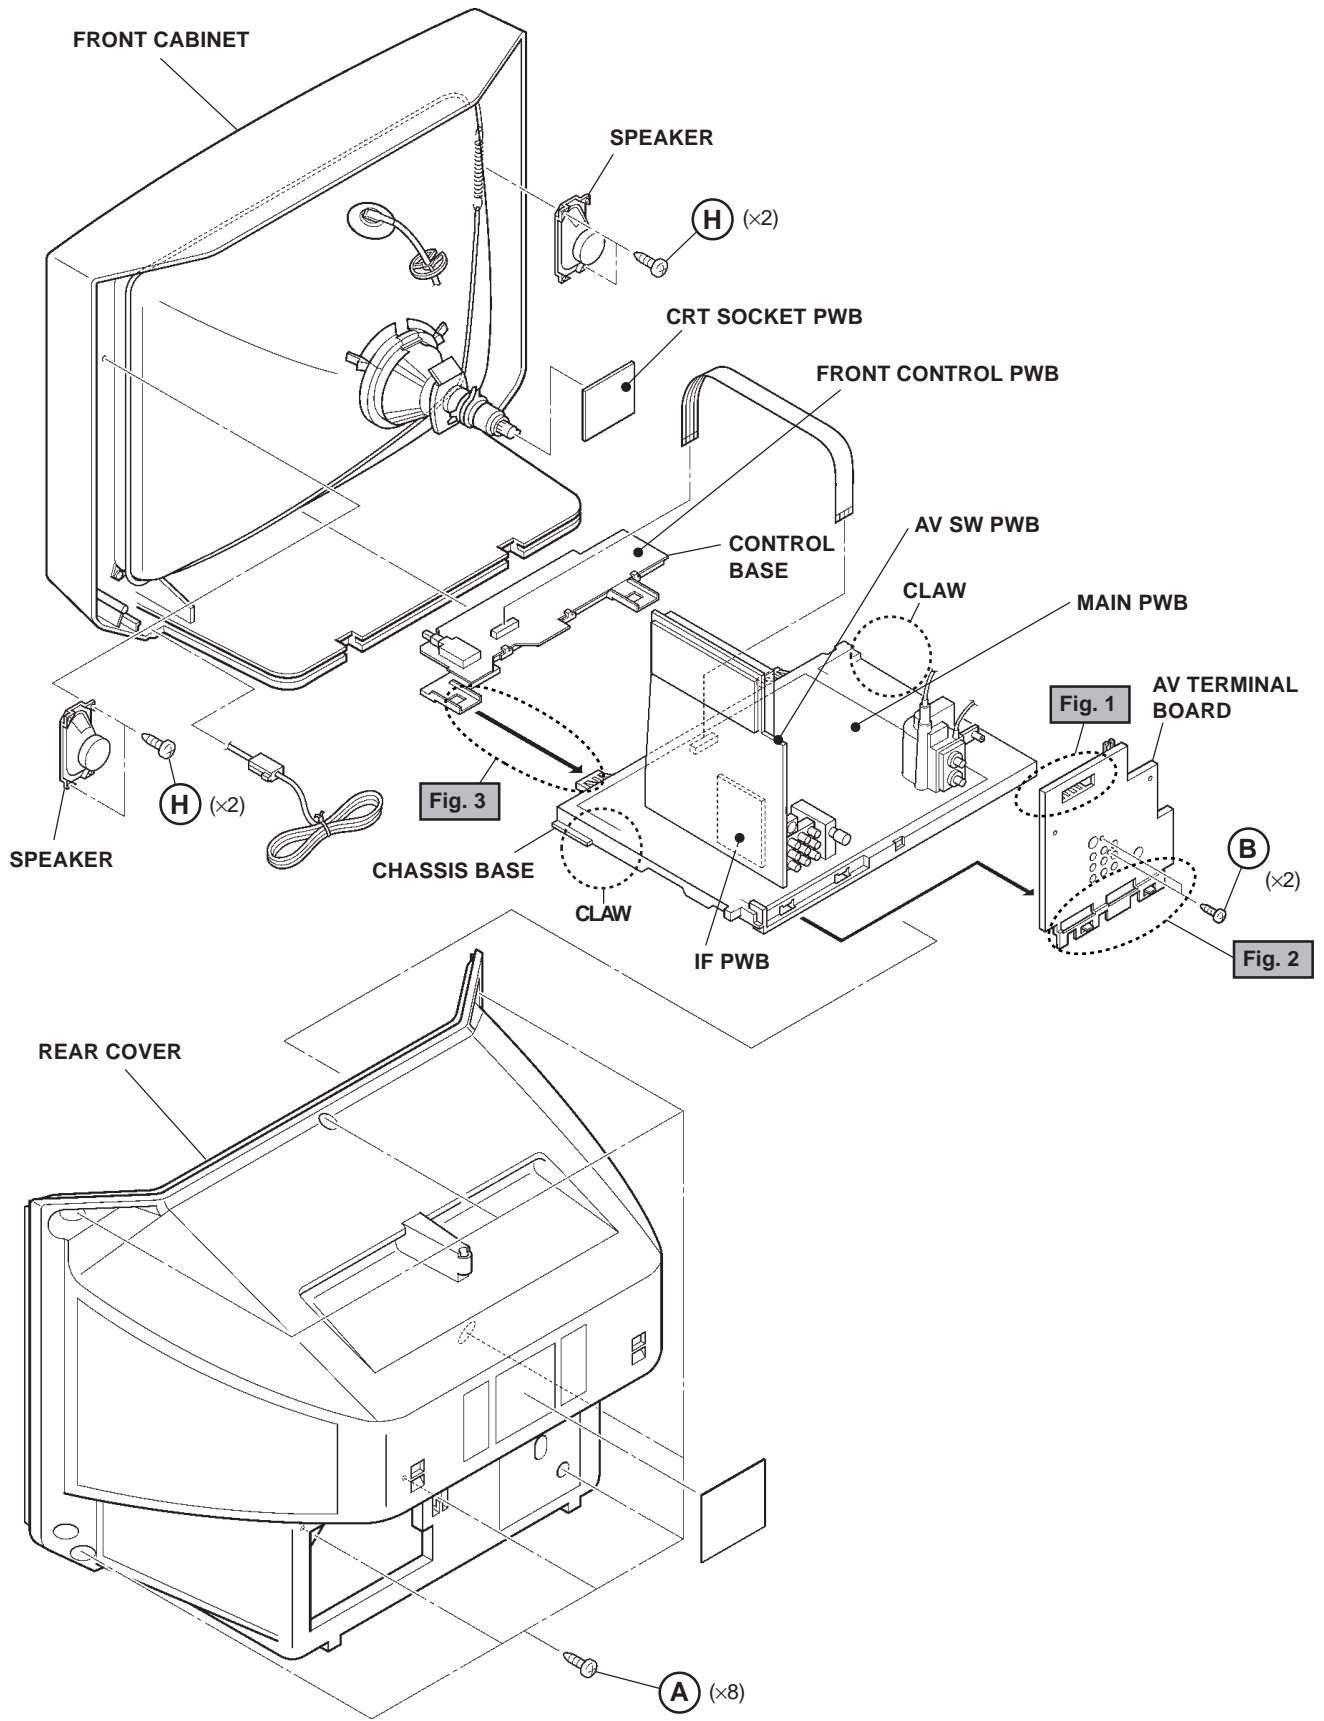

Fig. 4
2. Remove the 8 screws marked "A". (See Fig. 4.)
1. Slightly raise both sides of the chassis base by hand and remove the 2 claws under both sides of the chassis base from the front cabinet. (See Fig. 4.)
1. Remove the 2 screws marked "B". (See Fig. 4.)
1. Remove the 2 screws marked "H". (See Fig. 4.)